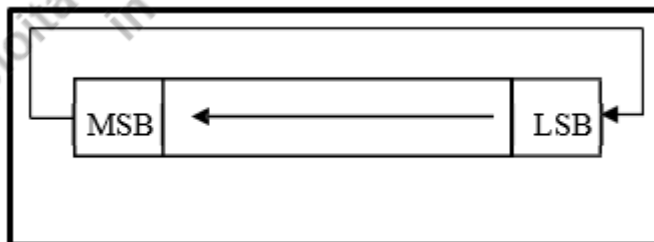

Fig 3.2: RL Instruction
- **RL:** It stands for rotate left (RL). The content of the accumulator is rotated left. The bits are shifted left from LSB towards MSB. The MSB is fed back to the LSB. The operation has been shown in Fig 3.2. The format of the instruction is as follows.